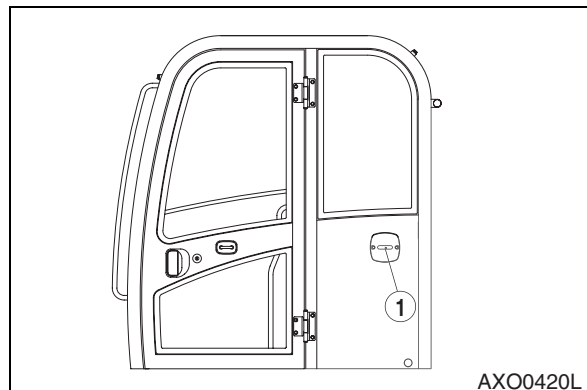

Figure 70
1. The door side latch (Figure 70) is used to secured the door to the side of the cab when it is opened.